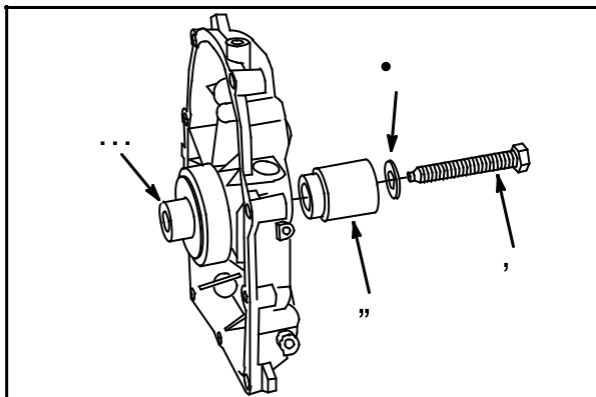

Fig. 16
Assemble washer (1), to puller screw (2). Insert through large end of driver (4), **Fig. 16**.